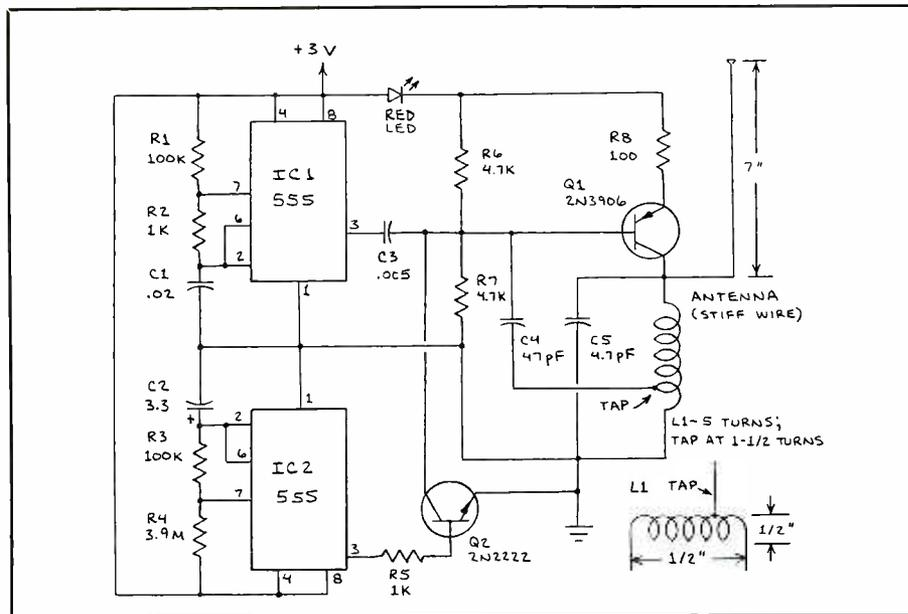

Fig. 4. Schematic diagram of circuitry for a miniature Part 15 vhf radio transmitter.
Shown in Fig. 4 is the schematic diagram of the circuitry for this transmitter. The transmitter can be switched on by a pressure- or light-sensitive switch to notify you when mail has been placed in your mailbox. It can also be used as part of a wireless doorbell or intrusion-alarm system. By replacing *R1* with a suitable variable-resistance detector, it can even be used as a telemetry transmitter that transmits temperature, light-intensity or other physical analog data.
The transmitter depicted in Fig. 4 was designed to meet the requirements of Part 15.122 of Title 47 in the Code of
The Fig. 4 circuit transmits a 0.24-second burst once every 10 seconds at a frequency within the 88-to-108-MHz FM broadcast band. In operation, *Q1*, *L1* and *C5* make up the transmitter's oscilla-
Oscillator coil *L1* is the most important component in the Fig. 4 circuit. This is an air-core coil that's made by wrapping five turns of solid wire around a 3/8-inch form. When the form is removed, the coil springs outward slightly and assumes a diameter of about 1/2 inch. The tap in my original transmitter was merely a wire soldered at the midpoint of the coil. As a result of the tests that follow, I replaced the soldered tap with the small clip lead shown in Fig. 5.
Fig. 6. Spectrum Probe oscilloscope displays of: (A) 84-MHz signal generated by Fig. 4 transmitter; (B) multiple exposure showing signals emitted by transmitter for three different oscillator-coil taps; (C) signal from transmitter (high-amplitude spike at right), along with local broadcast-band and TV-station signals; and (D) expanded view of (C).
happens. Then try squeezing and stretching the coil in the transmitter. Another interesting experiment you can perform is to replace *C5* in Fig. 4 with a variable capacitor and *R6* and *R7* with a potentiometer as described above. Changing the settings of these two adjustable components will produce significant changes in oscillation frequency.